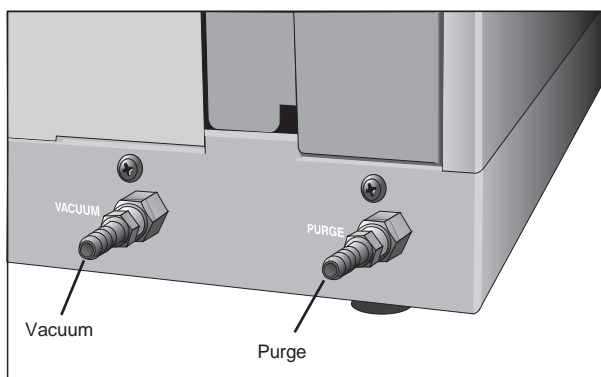

Figure 2.6
1. Locate the PURGE fitting on the right side of the 2010 CE instrument back (see Figure 2.6).
1. Locate the VACUUM fitting on the right side of the 2010 CE instrument back (see Figure 2.6).